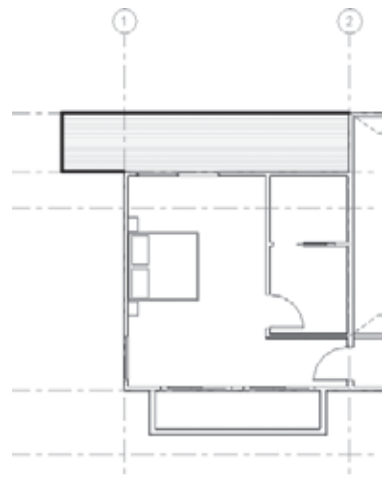

Figure 4.130
5. Select the railing and change its type to CABLE RAIL — CABLES using the Type Selector. The railing changes to a cable-style rail and looks like the railing in Figure 4.130.